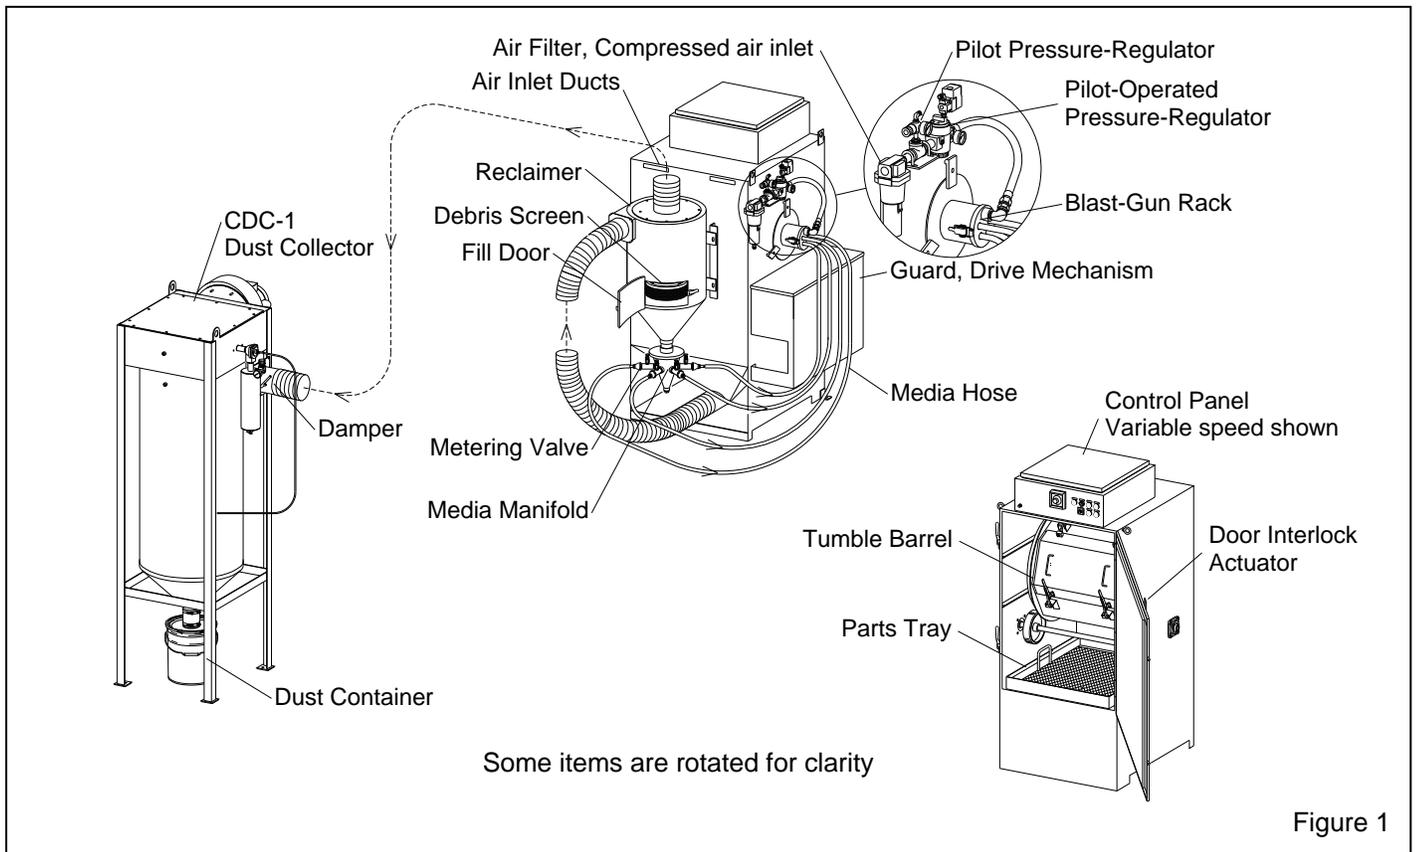
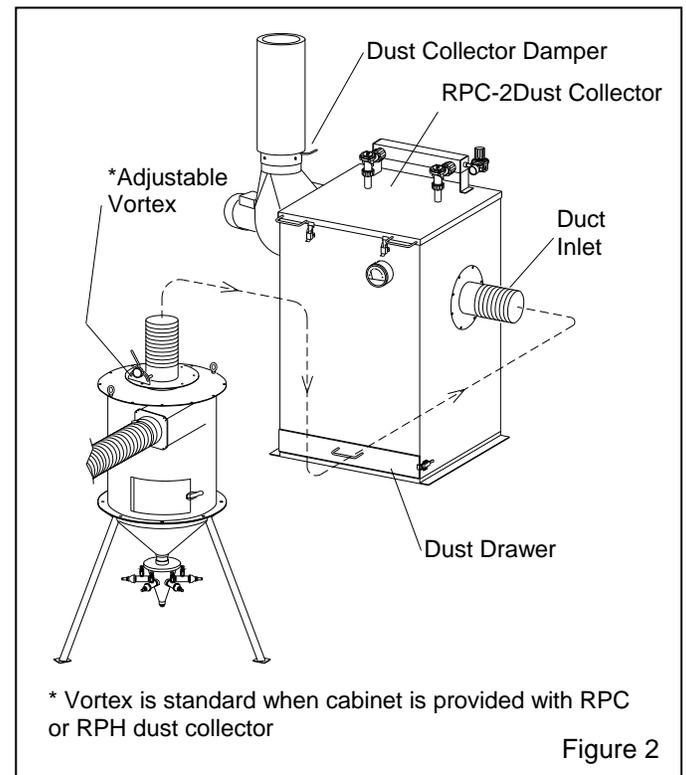

Figure 1
Figure 2
1.4.4.1 Refer to Figure 1 for arrangement of components with a CDC-1 dust collector. The model shown is a 164 with a 600 cfm reclaimer. Figure 2 shows a freestanding 900 cfm reclaimer connected to an RPC-2 reverse-pulse dust collector. The optional RPH-2 (600 cfm and 900 cfm) is set up the same way as the RPC, but includes a hopper for additional dust storage, and empties into a drum. The overall height of the RPH is approximately 10-feet, 6-inches, and 12-ft when the top access door is open. An upgraded, RPC or RPH collector may be added at any time.
1.6.1 CDC-1 Dust Collectors: Shown in Figure 1, this collector is available in 300, 600, and 900 cfm models. The single filter cartridge is cleaned by using a manually-controlled pulse of compressed air. Dust collects in a 5-gallon dust drum, which must be frequently emptied. Refer to manual number 28225.
1.6.2 RPC-2 Dust Collectors: Shown in Figure 2, this collector is available in 600 cfm and 900 cfm models. Dual filter cartridges are automatically cleaned by a timed, periodic pulse of compressed air. Dust collects in
1.6.3 RPH-2 Dust Collector: The RPH-2 is available in 600 cfm and 900 cfm models. It is set up and operates the same as the RPC-2 as shown in Figure 2, but instead of a dust drawer, the collector sits atop a hopper, which provides additional dust storage, and empties into a 30-gallon drum. Refer to manual number 21449.
2.1.1 Refer to Figure 1 (and Figure 2 for optional RPC-2 dust collector) for the general arrangement. Place all components in a convenient location where compressed air and electrical service are available. The cabinet location must comply with OSHA and local safety codes. Allow for full access to all doors and service areas, and for efficient handling of parts. Provide enough clearance at the dust collector to do maintenance and to remove the dust container. Place freestanding reclaimers directly behind the cabinet with flex hose connections and metering valves facing toward the cabinet with as few bends as possible. Determine the best location for all components and position them before making compressed air connections, electrical connections, and attaching flex hose.